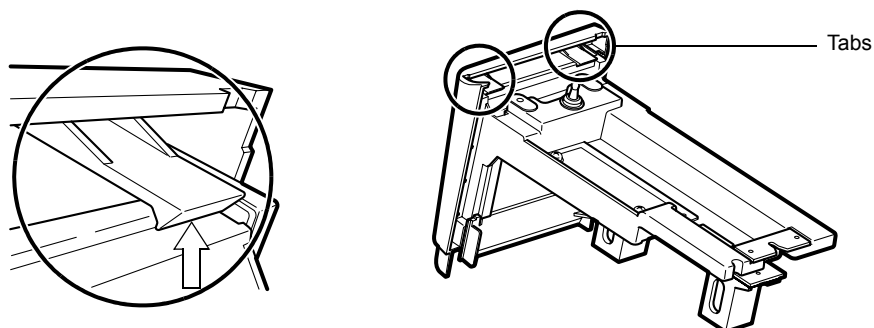
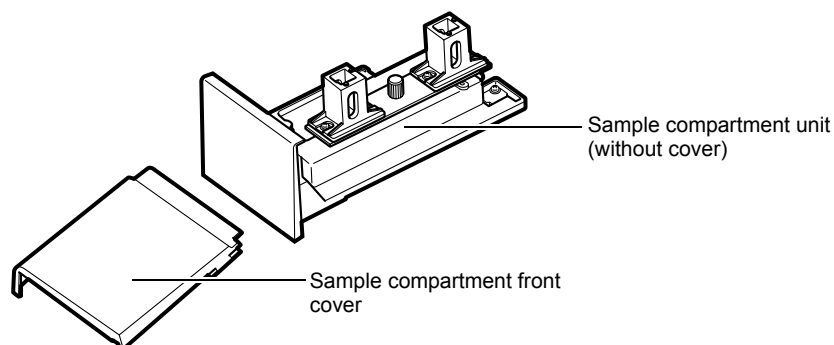

Fig. 4.12 Tabs on the sample compartment front cover
Fig. 4.13 Sample compartment unit
- 2 Turn the sample compartment unit upside down. Press the tabs (2 places) on the cover in the arrow direction as shown in Fig. 4.12 to release them from the unit. (Fig. 4.13)